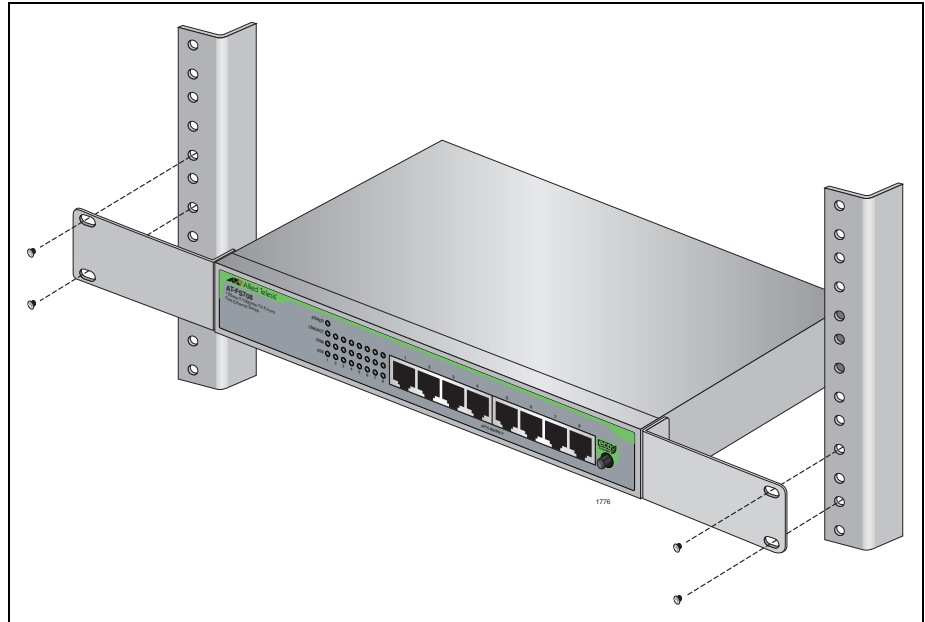

Figure 7. Rack Mounting the Switch
3. Mount the switch in a 19-inch rack using rack mounting screws (not provided), as shown in Figure 7.